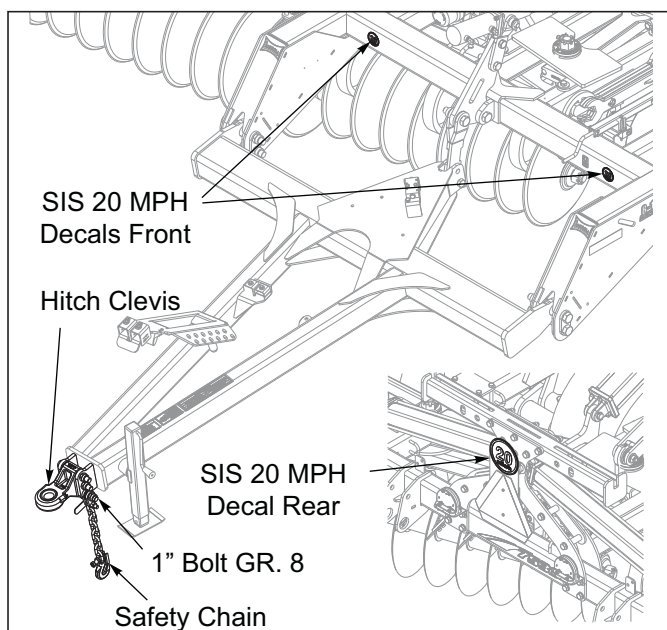

Figure 4-15: Hitch, Speed Identification Symbol, and Safety Chain
2. The 7531 should be transported only by tractor required for field operation. The implement weight should not exceed more than 1.5 times the tractor weight. Maximum transport speed for the 7531 is 20 mph for the implement and is designated on the speed identification symbol located on the front of the implement **See Figure 4-15**.
- b. Attach the safety chain to the tractor drawbar **See Figure 4-15**. Provide only enough slack in the chain for turning. Do not use an intermediate chain support as the attaching point for the chain on the tractor. Do not pull the implement by the safety chain.